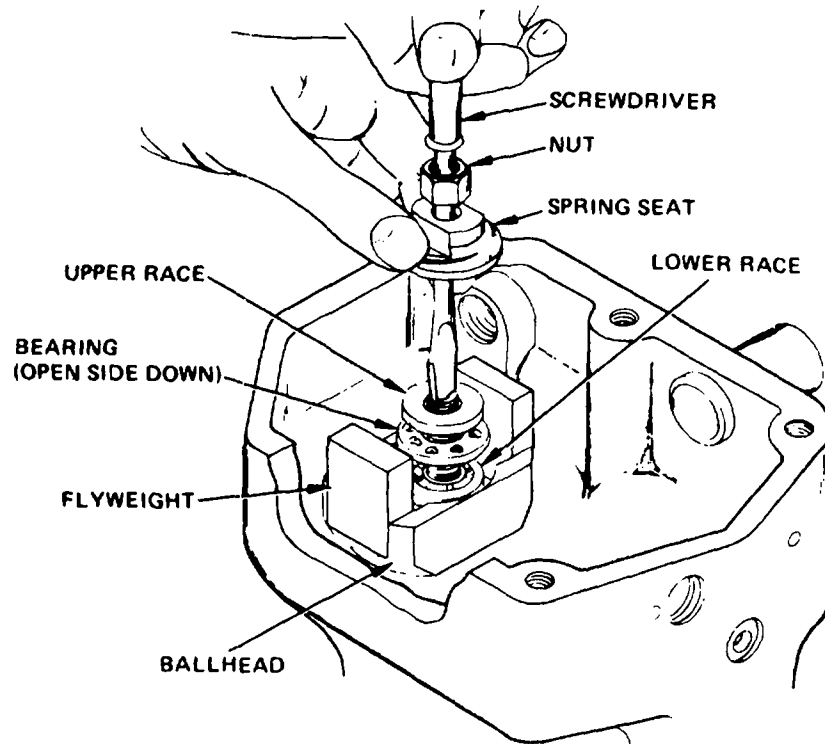
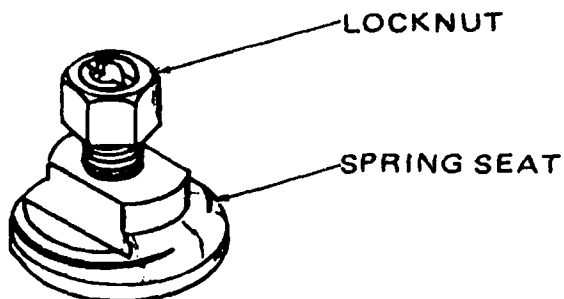

Figure 11-21. Governor Thrust Bearing and Spring Seat Assembly
Figure 11-22. Governor Spring Seat Adjustment
(19) Use a screwdriver (refer to figure 11-21) and guide spring seat (56, figure 11-5) and nut (57) onto pilot valve plunger (58). Hold the spring seat and nut and turn plunger counterclockwise threading seat (56) and nut (57) until nut is just below top of plunger (refer to figure 11-22).